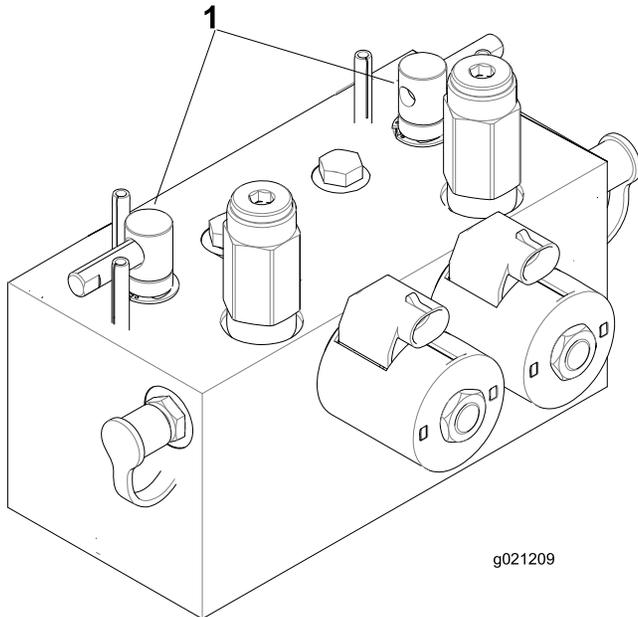

Figure 97
2. Unlock and raise the seat to expose the backlap levers (Figure 97).
5. Select either front, rear, or both backlap levers to determine which units to backlap (Figure 97).